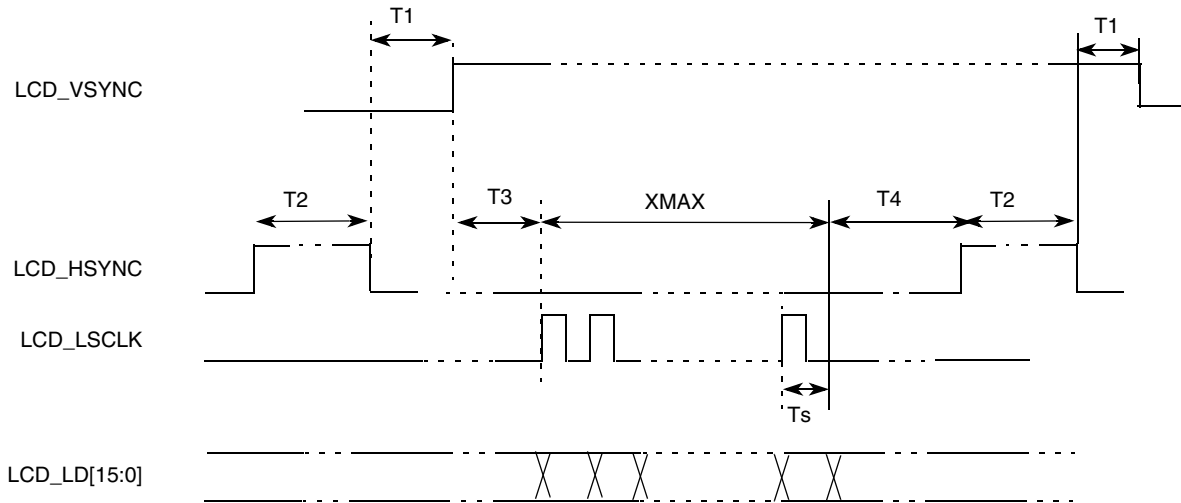

Figure 22. Non-TFT Mode Panel Timing
**Note:** Ts is the LCD\_LSCLK period while Tpix is the pixel clock period. LCD\_VSYNC, LCD\_HSYNC and LCD\_LSCLK can be programmed as active high or active low. In Figure 22, all these 3 signals are active high. When it is in CSTN mode or monochrome mode with bus width = 1, T3 = Tpix = Ts. When it is in monochrome mode with bus width = 2, 4 and 8, T3 = 1, 2 and 4 Tpix respectively.